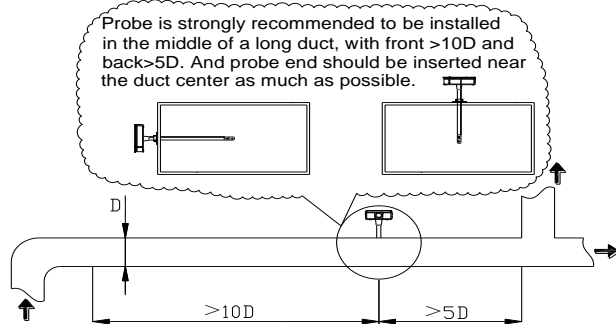

Fig 1
- (1) The air velocity probe should be installed in stable air flow. It should be installed in the middle of a long duct, with front >10D and back >5D, as Fig 1 below. And try to insert the probe end (location of the sensor) near the duct center as much as possible.